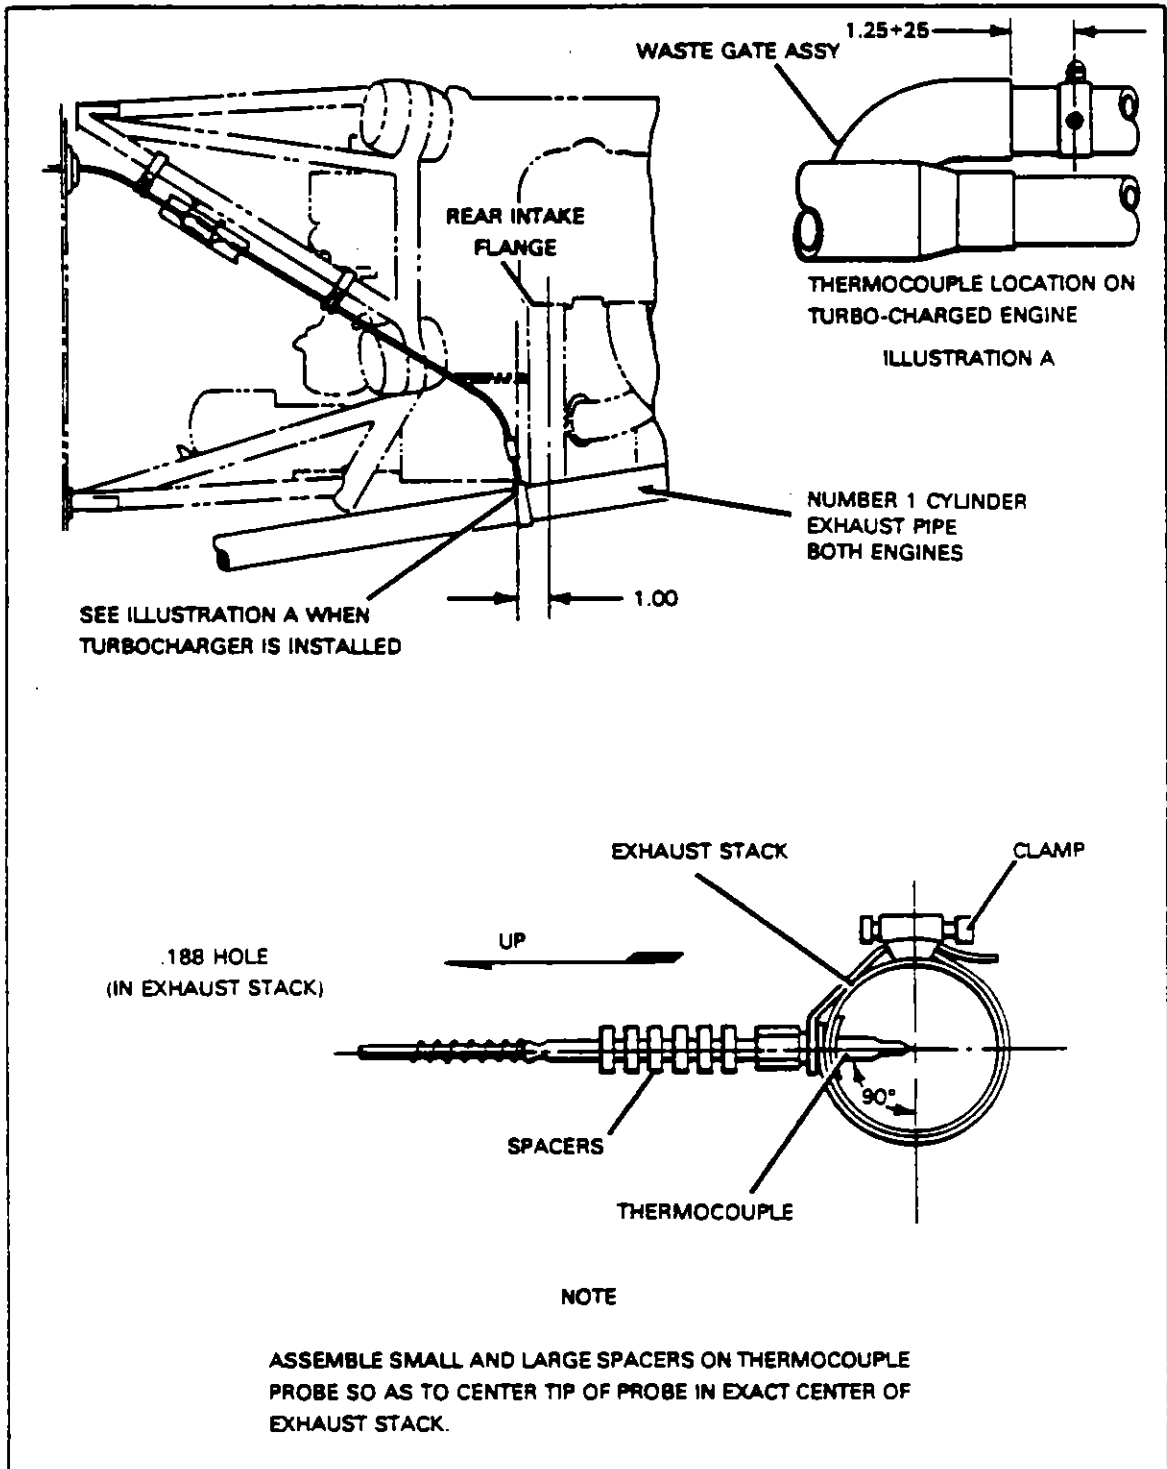

Figure 10-5. EGT Thermocouple Installation
1. Detach the thermocouple leads from the extension lead if necessary. (Do not detach if the probe can be removed and cleaned with leads attached) (Refer to Figure 10-5.)